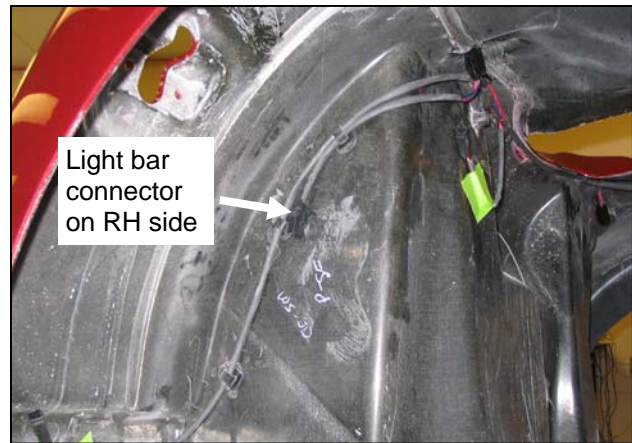

Fig. 9
18. **See Fig. 9.** Terminals and connector will need to be installed to extension harness before connecting to body wiring harness. Use appropriate tool for crimping male terminals to wires. (Mac Tools– TCT1028, Blue Point– PWC47 or H-D 41609).
19. **See Fig. 9.** Inspect crimps, distortion should be minimal.